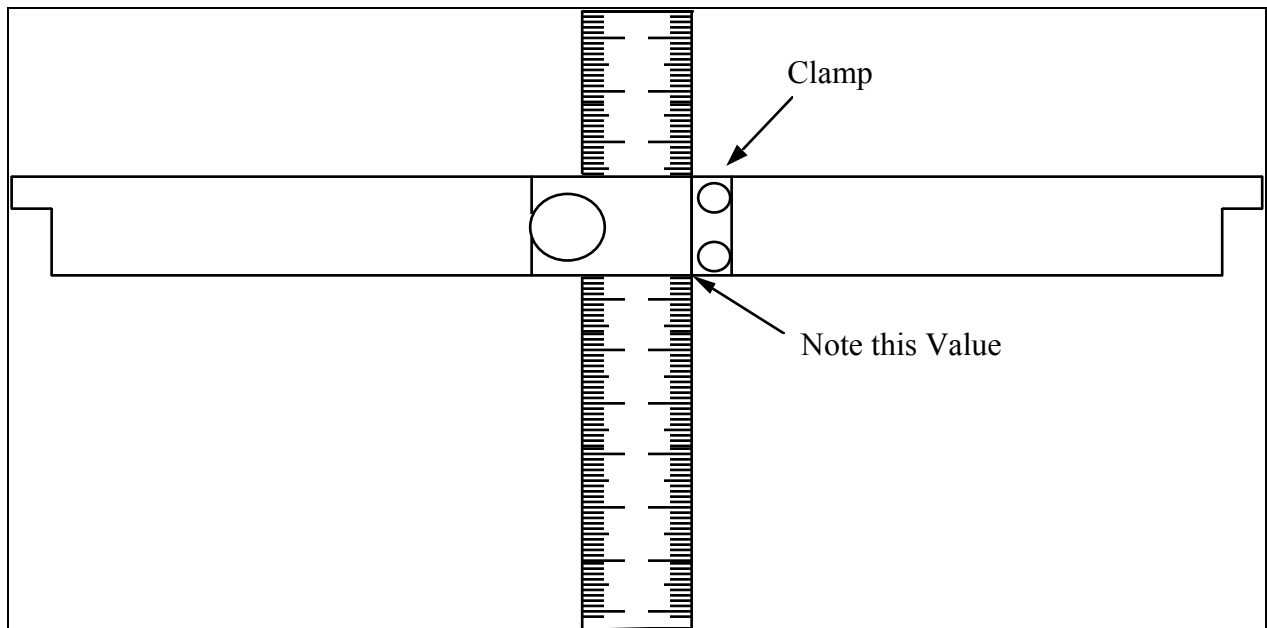

Figure 3-1 Measuring Scale
41. Hang the measuring scale from the Superspring mounting ring under the interferometer base. Loosen the clamp and slide the scale down until it touches the floor, then clamp it in place. Make sure the scale is straight. Read the value at the bottom side of the clamp (Figure 3-1). This value is nominally 495 to 510 mm. Record the value (cm) for later entry in the system check log.